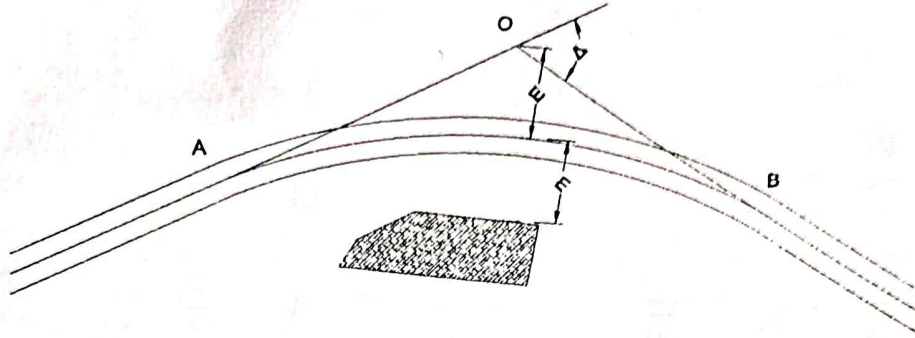

Figure 1 Horizontal curve
At a turning point shown in Figure 1, centrelline is at  $E=22$  m distance from Point of Intersection (O).  $\Delta=52$  deg.
- 10.b) Write the significance of set-back distance at a horizontal curve on a two-lane state highway as shown in Figure 1. For providing safe stopping sight distance ( $S$ ) on this curve with radius  $R$ , derive an expression for the minimum value of set-back distance,  $m$ , when length of curve  $L > S$ .